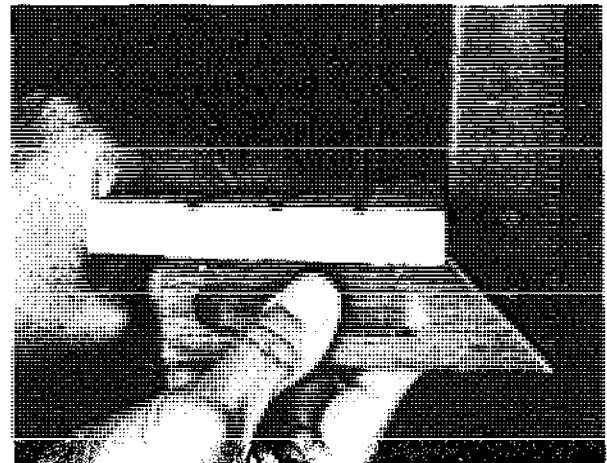

Fig. 5-17 Testing an edge for squareness
2. Place the handle of the try square firmly against the working face as in figure 5-17. Test for squareness of the edge by noting the high or low spots between the lower edge of the blade and the top surface of the edge of the board. Mark the high spots.